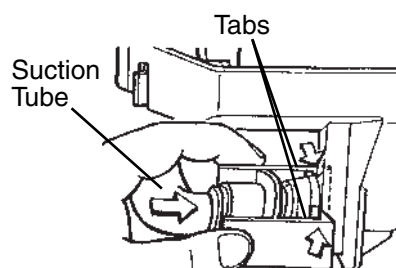

Fig. 28
- 7) Reconnect the suction tube as illustrated. See Fig. 28. Make sure the tabs lock into place; a loose fitting may cause a water leak.